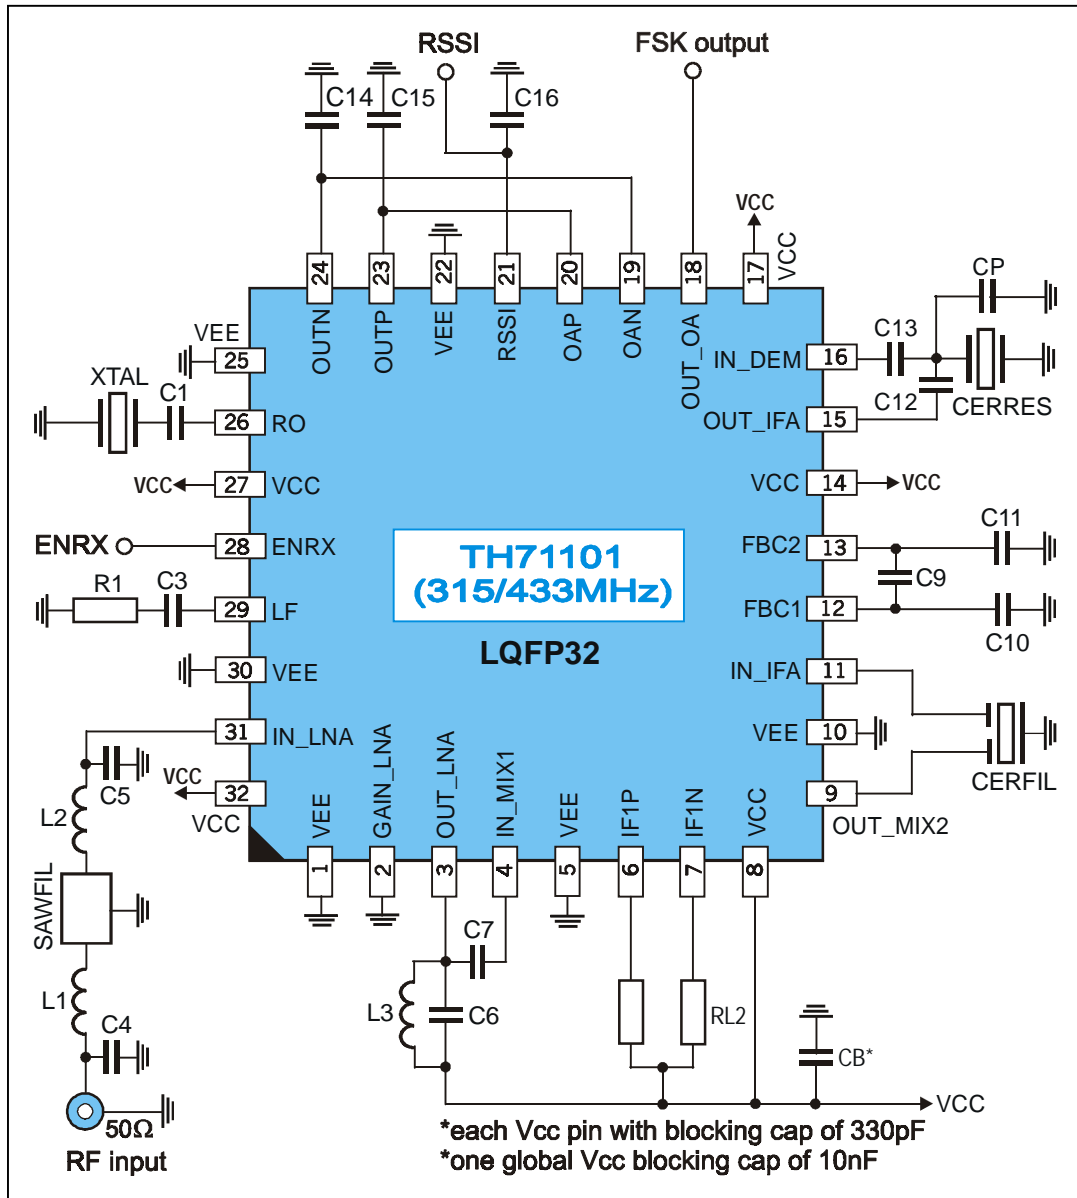
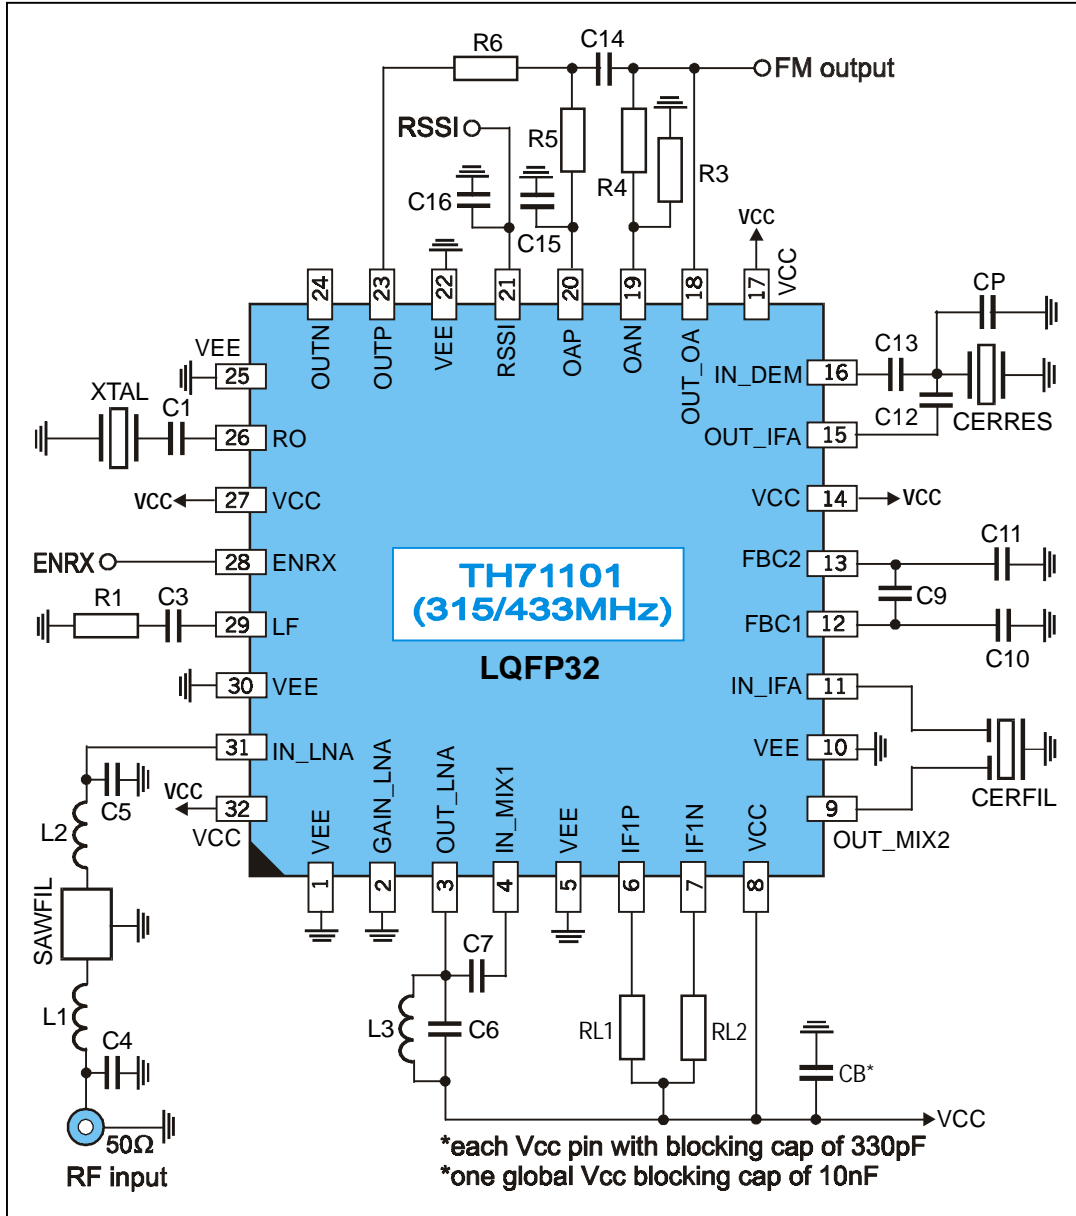

Fig. 2: Test circuit for FSK reception
Fig. 4: Test circuit for FM reception
all parameters based on test circuits for FSK (Fig. 2), FM (Fig. 4) and ASK (Fig. 5), respectively;
**FSK test circuit component list to Fig. 2**
**FM test circuit component list to Fig. 4**